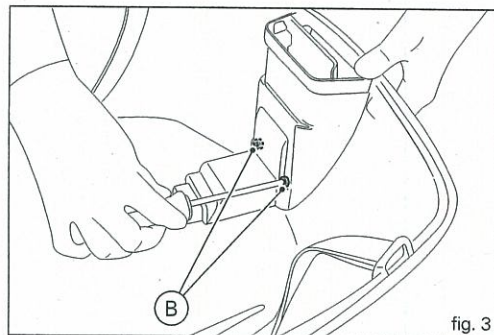

fig. 3
Fasten the plate from inside the Top Case (1), tighten the two screws (B) (previously removed)(see fig. 3).